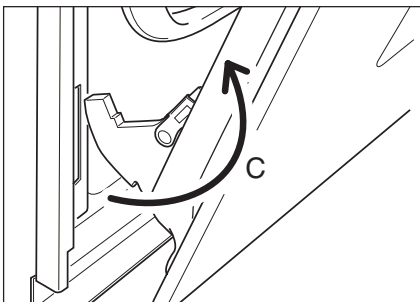

Fig.33e
- Withdraw the hinge hooks from their location following arrow "C" (Fig. 33e).